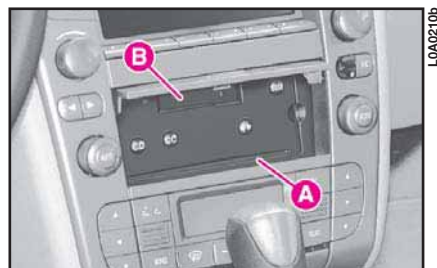

fig. 221
- audio CD/navigation CD-ROM player **A** (fig. 221) on the dashboard